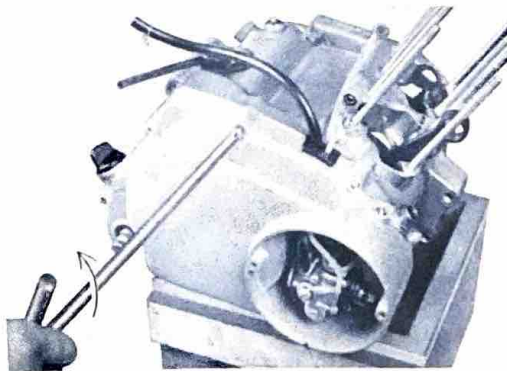

Fig. 4-7-2
b. Remove the pan-head screws from the crankcase cover (R), and take off the cover. (Figs. 4-7-2 and 3)